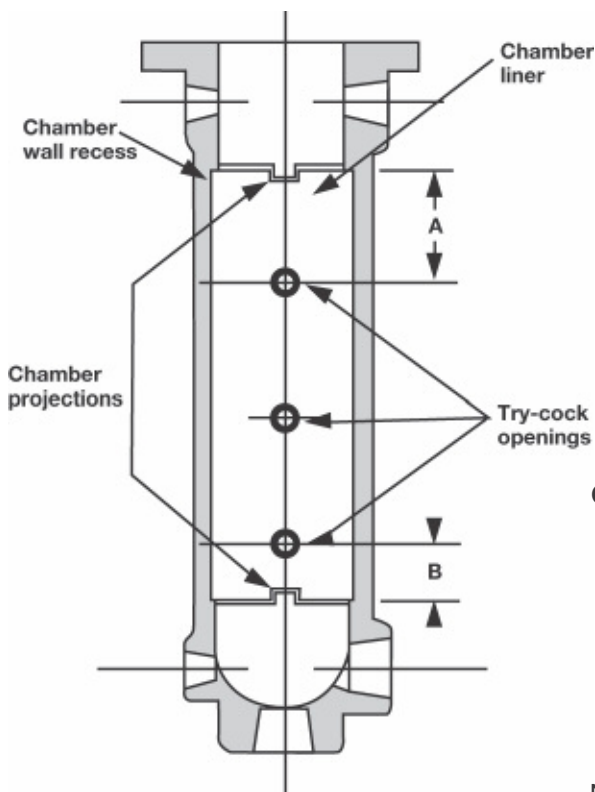

Figure 12
- 5.1. Try-cock openings on certain water column models are equidistant from both top and bottom of recess in chamber wall, as indicated by reference dimensions A and B. Refer to Figure 12. If wrong end of liner is inserted first, try-cock openings will not line up with holes in liner.